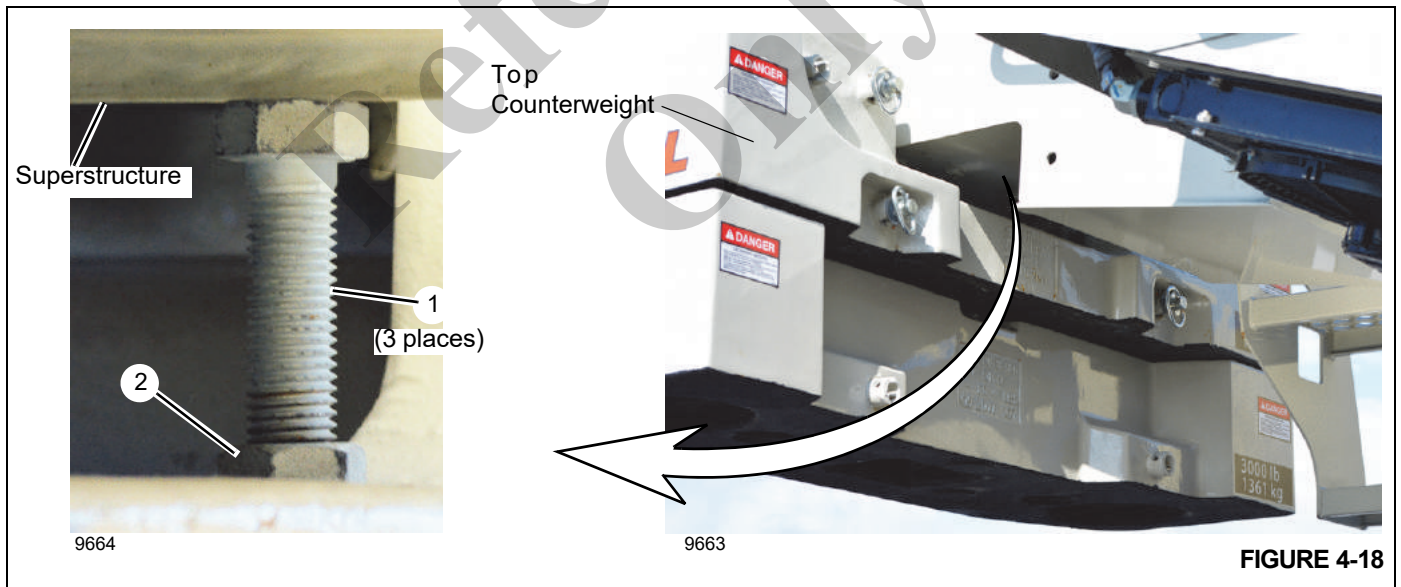

FIGURE 4-18
- Adjust three bolts (1, Figure 4-18) to level the counterweight and eliminate any relative movement between counterweight and superstructure. Use the jam nuts (2, Figure 4-18) to lock the bolts into position.